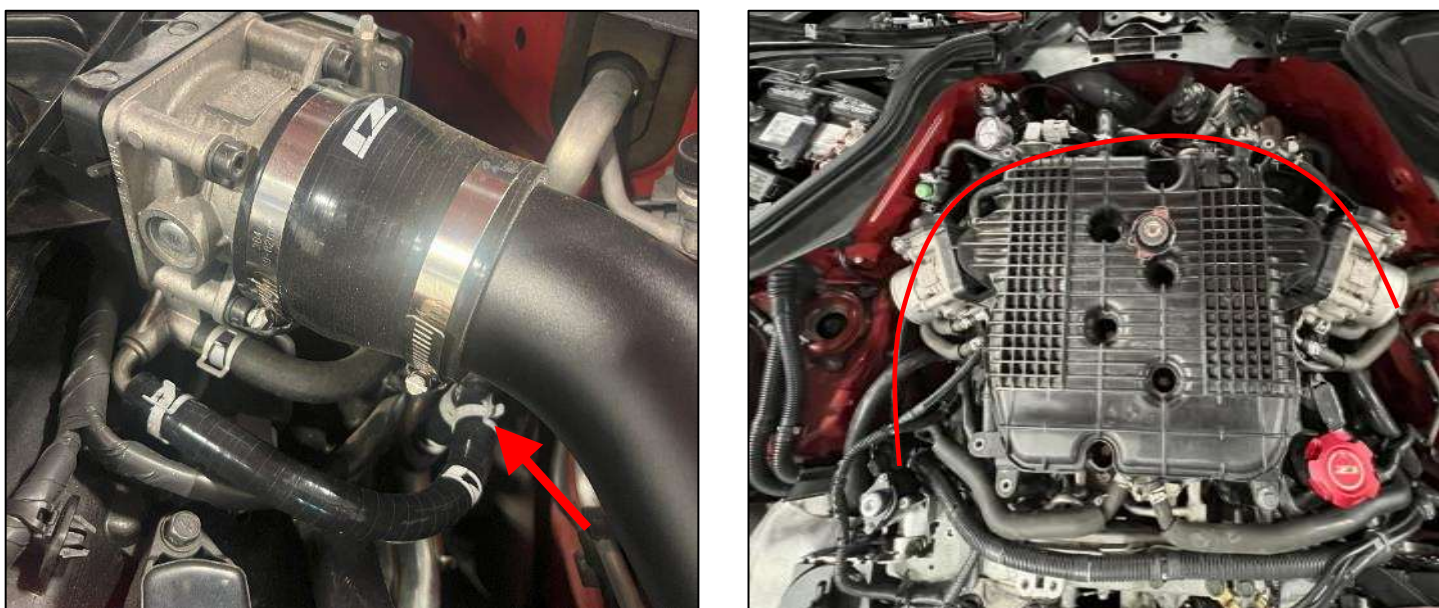

Figure 43
7. Route the hose connected to the bottom of the Coolant Reservoir behind the engine and towards the driver side throttle body. Cut the hose a couple inches above the barb on the heater pipe. Refer to the images in *Figure 43*.
NOTE: *Figure 43* is shown with the charge piping installed. The tee fitting and coolant lines are shown with an arrow below the Throttle Body Coupler.